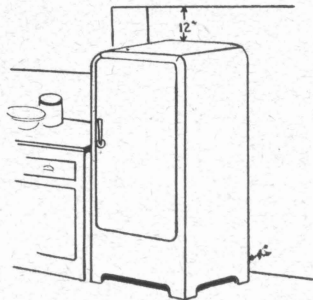

Fig. 45
**Remedy:** Have all foods ready to place in the refrigerator before opening the door. Locate the refrigerator so that door opens conveniently to a nearby work surface. Fig. 45. Close the door immediately after the foods are placed inside.
*Remedy:* See that refrigerator is not too close to a coal or wood stove, or too close to the wall or cabinets. Allow a 12-inch space above the refrigerator and a 4-inch space at the back and sides. Fig. 45.